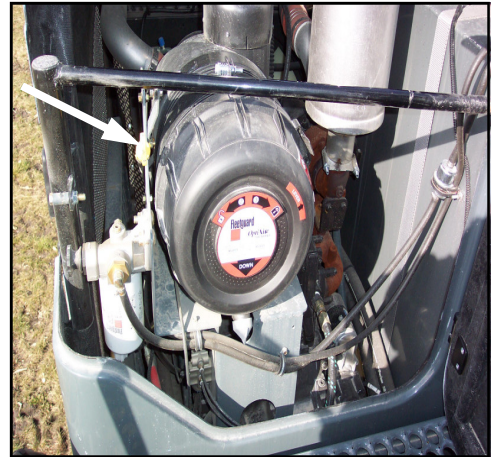

FIG 114-1
**OIL LEVEL**—The engine oil level dipstick is located on the left-hand side of the engine (fig. 114-1). Never operate the engine with the oil level below the “L” (low) mark or above the “H” (high) mark. Wait at least five minutes after shutting off the engine to check the oil level, this allows the oil to drain to the oil pan. Check the engine oil level daily.